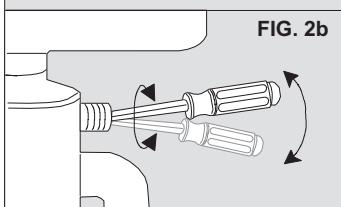

FIG. 2b
4. Scrape the inside of the exposed disposal nipple with a screwdriver to remove any build-up caused by a dishwasher. (See Fig. 2b)